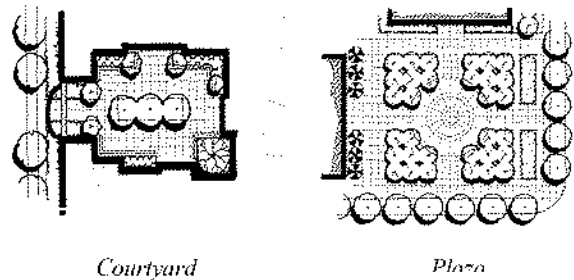

Figure 6-18. All blocks shall have at least 5% of the block publicly accessible open space such as courtyards or plazas.
- (1) Each block shall contain a courtyard(s) or plaza(s) covering at least 5% of the block, bordering a public right-of-way on its longest side. See Figure 6-18.